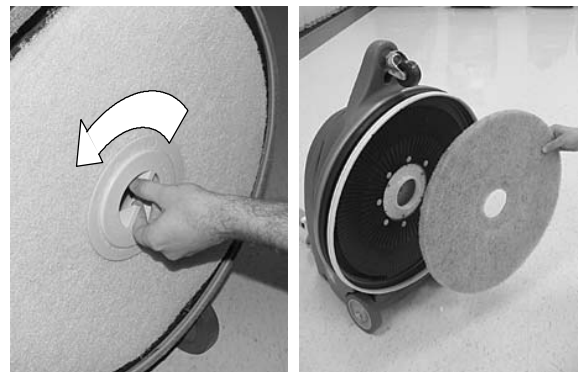

FIG. 9
- After each use, inspect the burnishing pad for wear. If worn, remove the pad and flip it over or replace it (Figure 9).